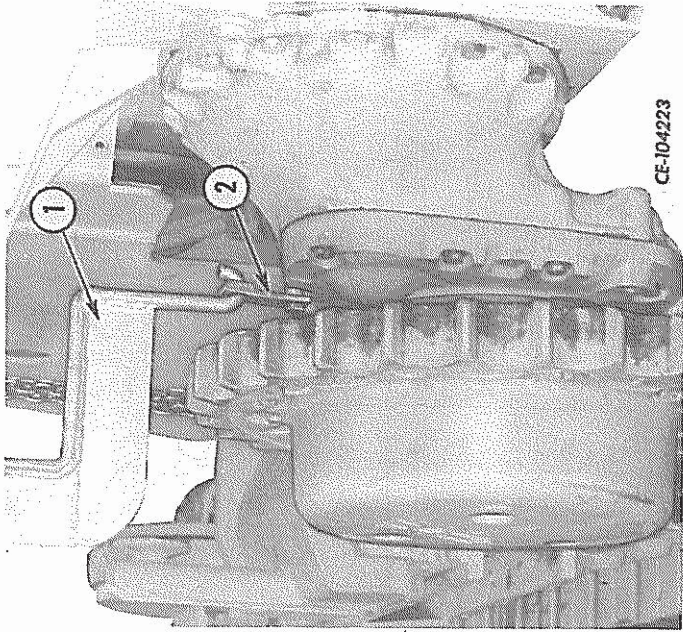

Fig. 55 — Lifting Hook and Adapter Installed
8. Remove the capscrews securing the sprocket drive carrier to the rear main frame. To obtain the proper balance for removing the sprocket drive assembly, remove the sprocket drive carrier cover mounting bolt from the location shown in Fig. 55. Use a bolt 83mm (3-1/4 in. in length) to secure the adapter (2) to the cover. Install the lifting hook (1) to the adapter and attach to a hoist.
3. Sling the assembly with the special lifting hook and adapter as was done in removal (Fig. 55) and move the assembly toward the rear main frame until the pinion shaft contacts the sun gear in the steering planetary. Turn the sprocket as necessary to engage the pinion shaft and sun gear splines; then move the sprocket drive assembly against